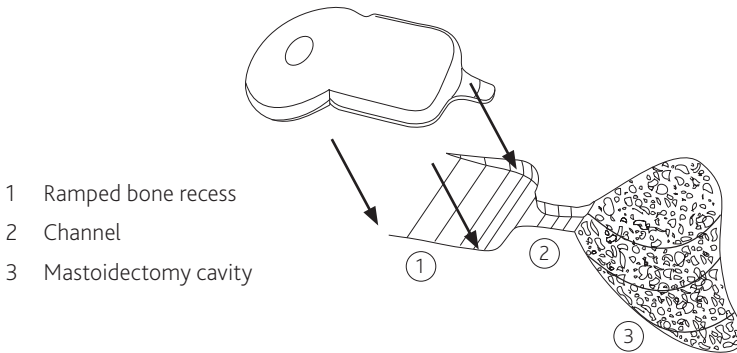

Figure 8: Ramped bone recess, electrode channel and mastoidectomy
5. Drill a channel to connect the bone recess and mastoid cavity – see Figure 8. The channel will help protect the electrode against trauma.